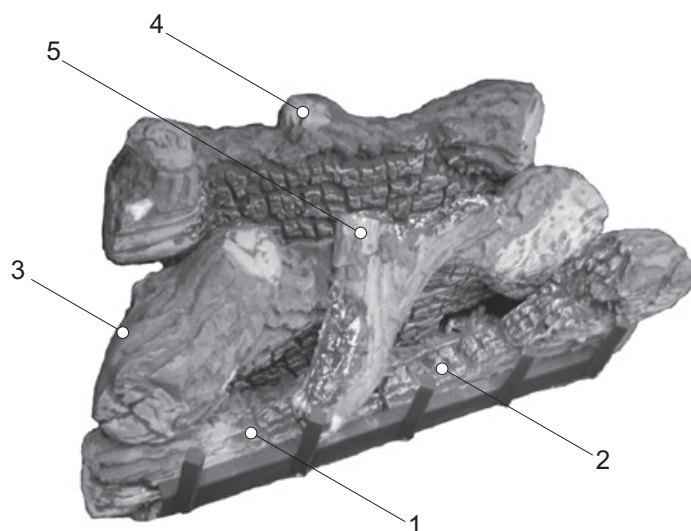
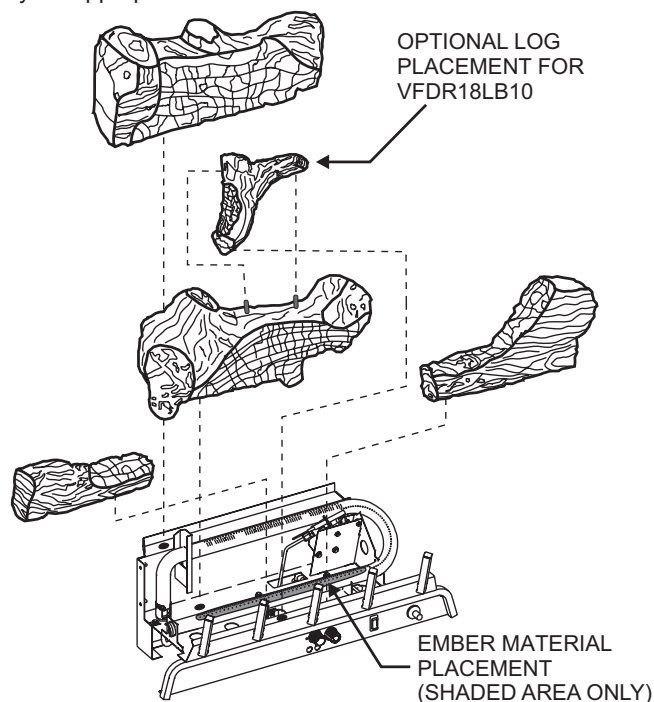
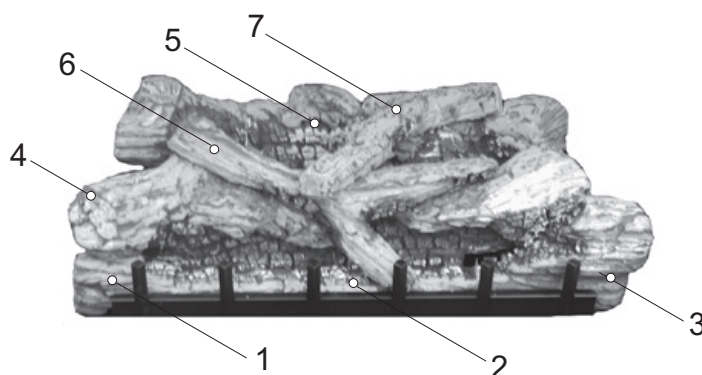
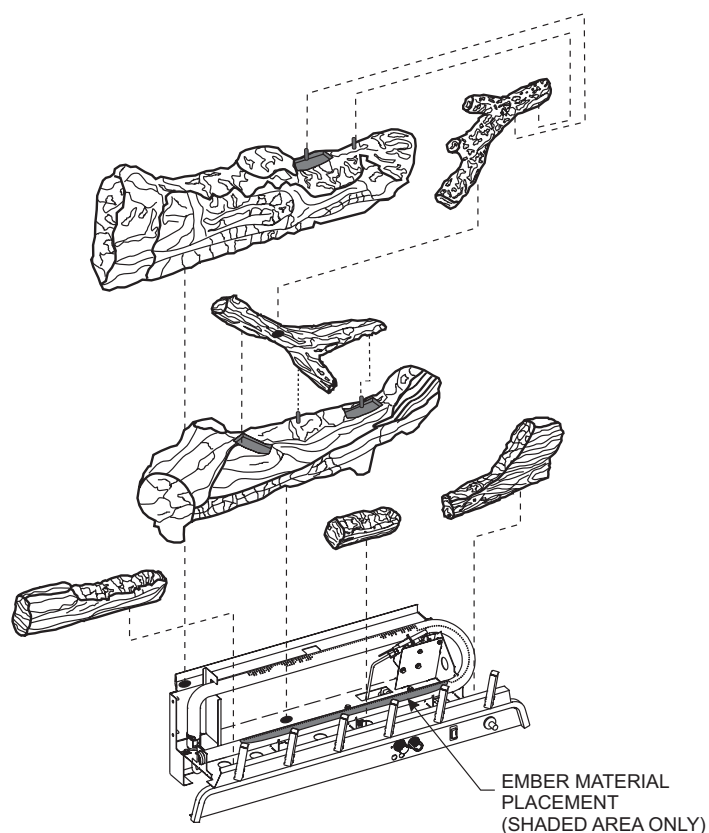

Figure 11
Figure 12
Figure 13
Figure 14
The positioning of the logs is critical to the safe and clean operation of this burner assembly. Sooting and other problems may result if the logs are not properly and firmly positioned on the burner assembly. Refer to **Figure 11** and **Figure 12** and corresponding **'WARNING:'** when completing following log placement instructions.
5. After all logs are positioned properly, apply Rockwool ember material to the front burner port area. To apply, carefully separate the ember material into small amounts no larger than "dime size" pieces. Fluffed up pieces one layer thick on top of the burner generally works best, and will provide the best ember glow. Do not place ember material more than one layer thick. No more than (2) two small packets of ember material (part no. 15998) evenly placed on the burner, is recommended on VFDR18 and VFDR24 models. Using additional ember material will decrease the amount of ember glow effect. Extra ember material should be saved for future ember applications as necessary. **See Figure 12.**
Attention: Do not use Figure 12 or Figure 13 to order logs. Refer to Parts Lists and Parts Views to order logs and/or ember material for your appropriate model.
The positioning of logs is critical to safe and clean operation of this burner assembly. Sooting and other problems may result if the logs are not properly and firmly positioned on the burner assembly. Refer to **Figure 13** and **Figure 14** and corresponding **WARNING**: when completing following log placement steps.
6. After all logs are properly positioned, place small "dime" size pieces of Rockwool lightly across the front burner tube ports. Place the ember material (Rockwool pieces) side by side. Do not stack more than one layer of embers across the burner ports. No more than (1) one packet of ember material (part number 15999) evenly placed on the burner, is recommended on VFDR30 models. **See Figure 14.**
Attention: Do not use Figure 13 or Figure 14 to order logs. Refer to Parts Lists and Parts Views to order logs and/or ember material.